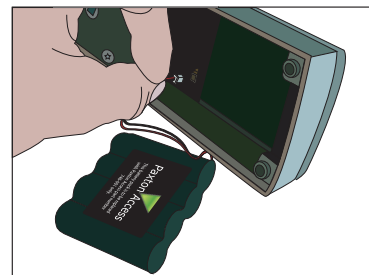

Fig 3
4. Unplug the lead and replace the pack with a new Paxton battery pack. - Fig 3.